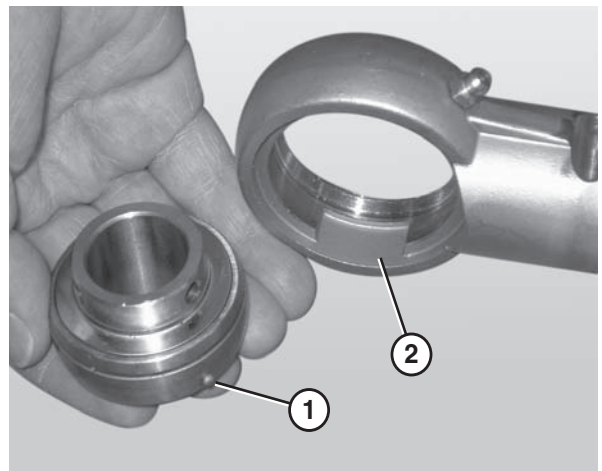

Figure 78
4. Remove the worn or damaged bearing (Figure 78).
When inserting the new bearing, make sure the anti-rotation notch (Figure 78, item 1) on the bearing lines up with the groove inside the housing (Figure 78, item 2).